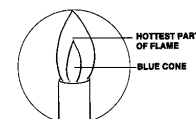

Figure 1.
A. On the above scale (Figure 1):
5. Adjust the air intake to obtain a blue cone (Figure 1).
5. Adjust the height of the flame with the main gas valve. Adjust the air intake (by raising/lowering chimney or by adjusting the air intake) to obtain a blue cone (Figure 1).